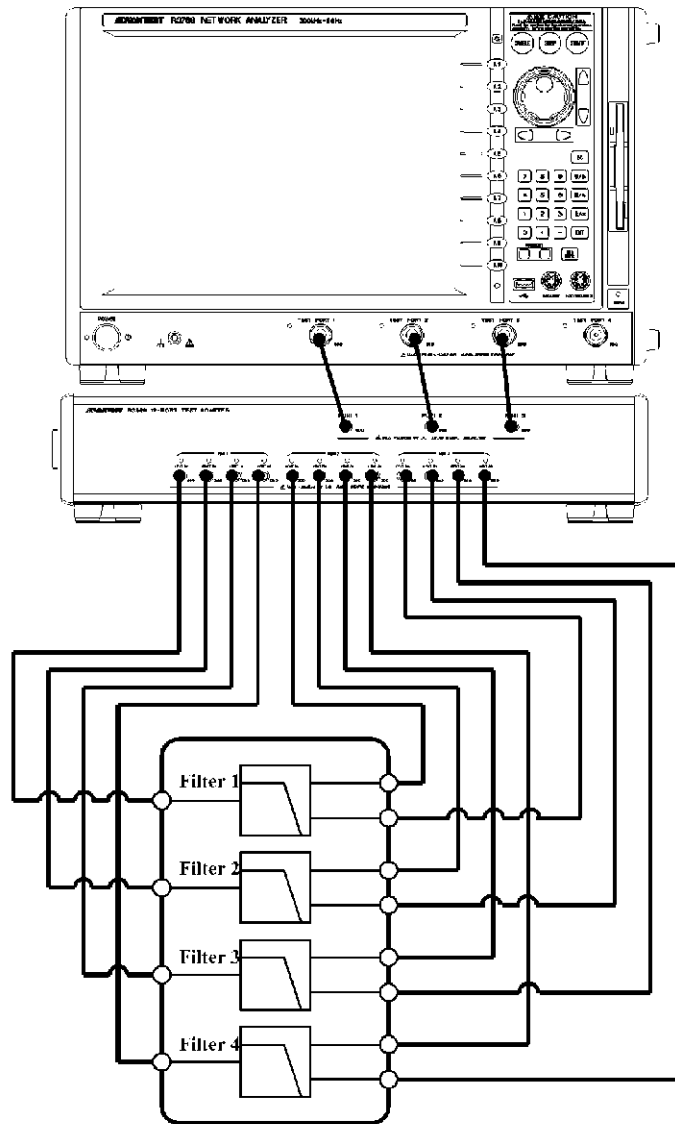

Figure 5-1 Setting up the Measurement System (OPT 12)
17. After completing the setting until the step 16, connect this instrument to the device as shown in Figure 5-1.